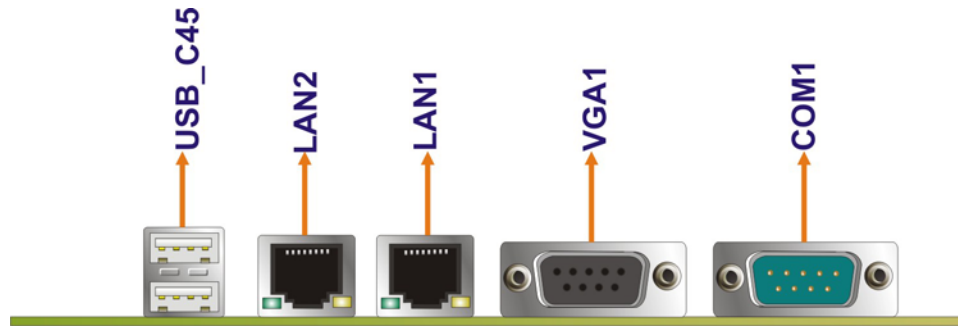

Figure 4-19: WAFER-945GSE External Peripheral Interface Connector
Figure 4-19 shows the WAFER-945GSE external peripheral interface connector (EPIC) panel. The WAFER-945GSE EPIC panel consists of the following:
- CN Location:** See Figure 4-19
- CN Location:** See Figure 4-19 (see 2)